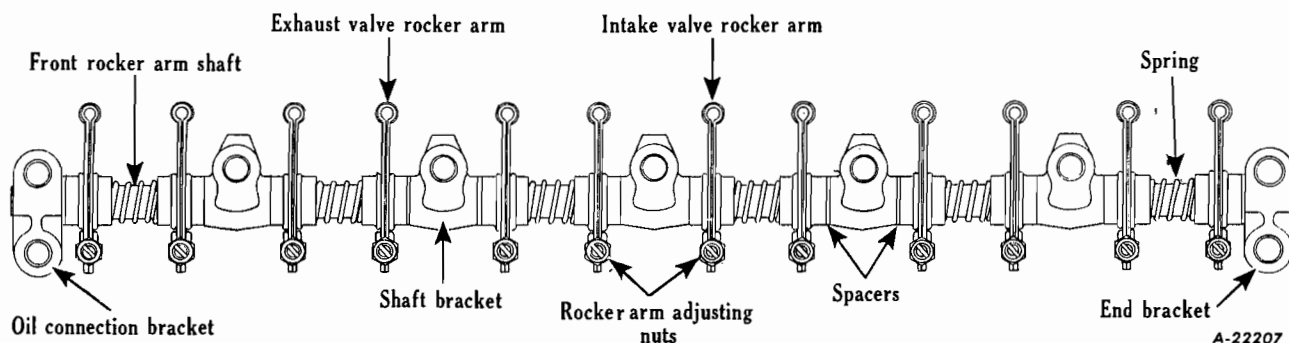

Fig. 6 - Details of rocker-arm assembly.
1. The rocker-arm assembly is composed of front and rear shafts joined at the center, on which are mounted twelve rocker arms and six tension springs. The shafts are mounted in seven brackets, and are prevented from turning at the two end brackets, by slots in the shaft into which the cylinder-head bolts fit (Fig. 6).